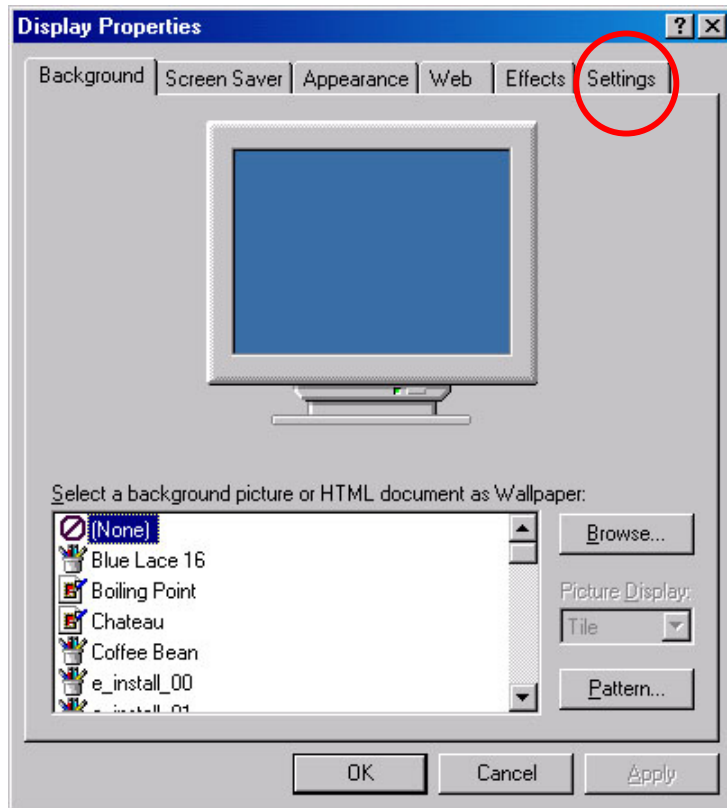

Fig. 5.1 Display Properties
- 1) Double-click **{Display properties}** in {control Panel}, and display the dialog as shown in Fig. 5.1.